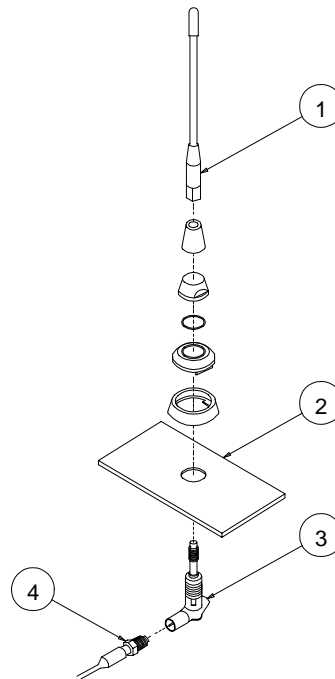

Figure 2.5: Standard External Antenna
3. Assemble the antenna according to Figure 2.5: Standard External Antenna.